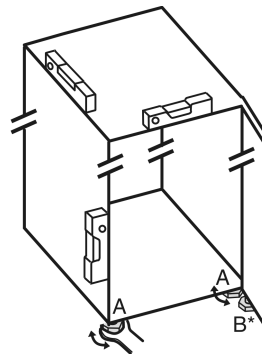

Fig. 7
- Unscrew the adjustable feet Fig. 7 (A) using the open-end wrench provided and a spirit level until the appliance is firmly aligned and level.
- Unscrew the adjustable foot *Fig. 7 (B)* at the swap bearing block using the open-end wrench provided until it rests on the floor.
- Turn the adjustable foot *Fig. 7 (B)* another 90°.